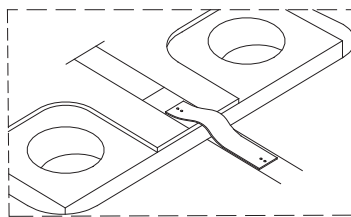

Figure 5.
3. The third method requires a .010-inch (.254 mm) wide, .050 inch (1.27 mm) long gold plated Kovar strip soldered to the end of each of the three mixer traces. A pure gold ribbon is then gap-welded or wedge bonded to the interface trace, a small relief is formed, and the other end is again gap-welded or wedge bonded to the gold plated disk (Figure 5).